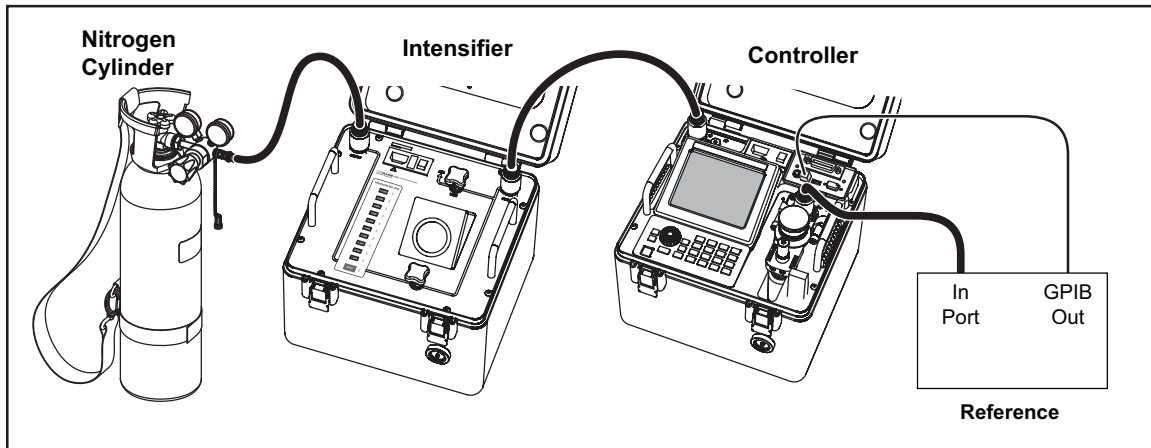

Figure 3-1. Equipment Setup
3. Connect the Nitrogen Cylinder supply to the Controller as follows (see Figure 3-1):
4. Connect the Intensifier to the Controller as follows (see Figure 3-1):